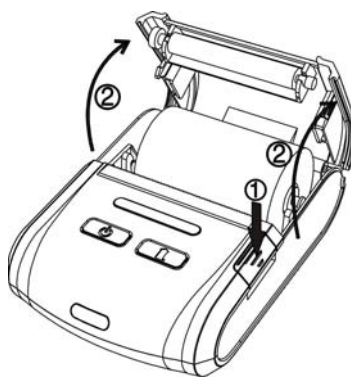
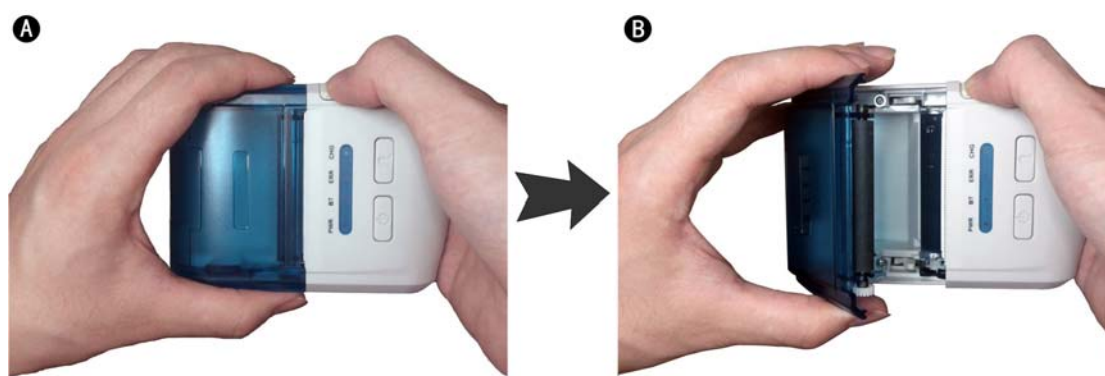

Figure 2-2: Open paper roll box
Figure 2-3: How to open paper roll box
2. Press the open button for paper roll box, and use another hand pull up the cover of the paper roll box, as Figure 2-2 and Figure 2-3 shows.